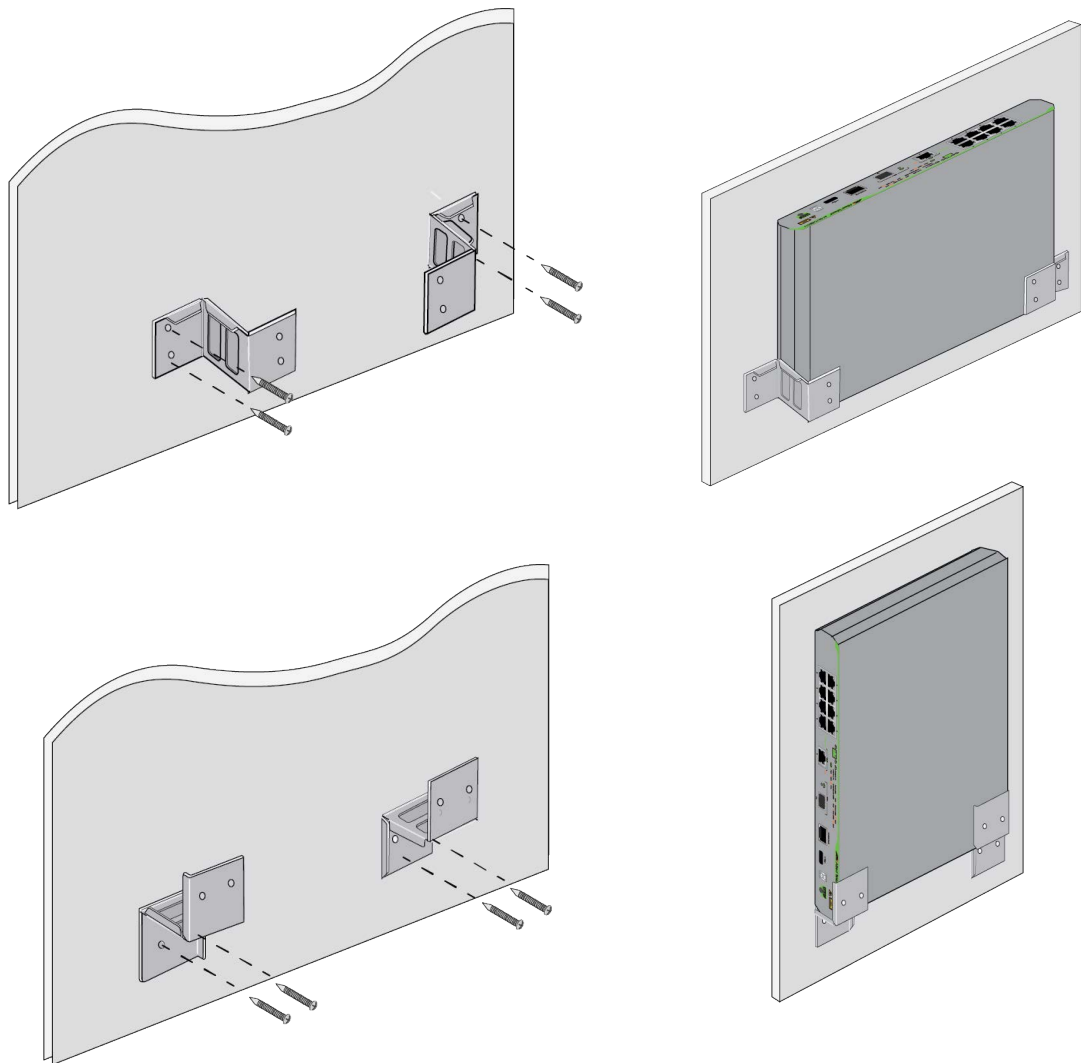

Figure 52. Attaching the Bottom BRKT-J23 Brackets to the Wall
9. Attach the bottom BRKT-J23 brackets to the wall with appropriate screws. Refer to Figure 52 on page 92.